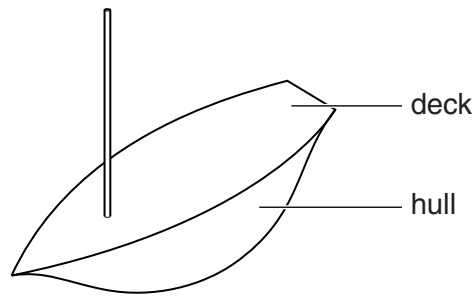

Fig. 10
- (e) Fig. 10 shows a different design for a toy boat.